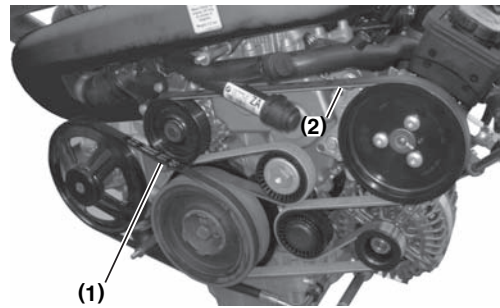

Figure 8
3. Check the seawater pump belt **(Figure 8, (1))** and alternator belt **(Figure 8, (2))** for wear, cracks or damage.